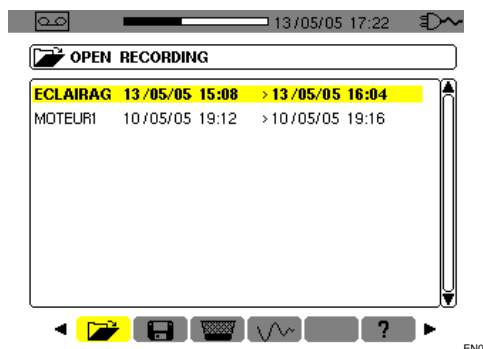

Figure 50: Example of recording campaigns screen.
8.	Return to the previous screen (Figure 50).